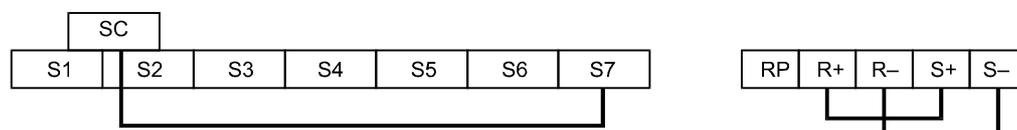

Fig 6.46 Communication Terminals Wiring for Self-Diagnosis
3. Perform the wiring according to *Fig 6.46*.